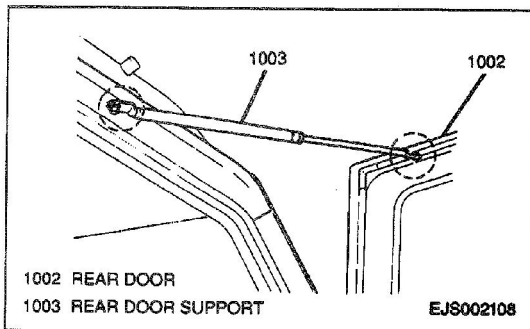

Figure 2—Rear Door Support- Four - Door Models
10. One nut attaching rear door support to rear door (Four -Door Models) (Figure 2).
3. Rear door support to vehicle; secure with two nuts (connect to rear door opening first, Four - Door Models, Figure 2).